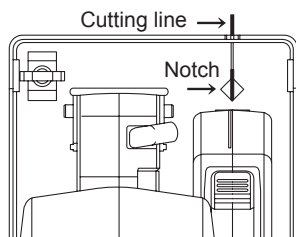

Fig. 7
1. Line up the sight line on shoe with your cutting line. (See Fig. 7)